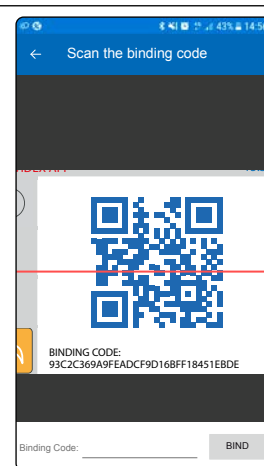

Fig. 25 Fit the QR Code in the frame or enter text code
- Focus on the QR Code or enter the text code (**Fig. 25 on page 21**) if you have difficulties with the camera.